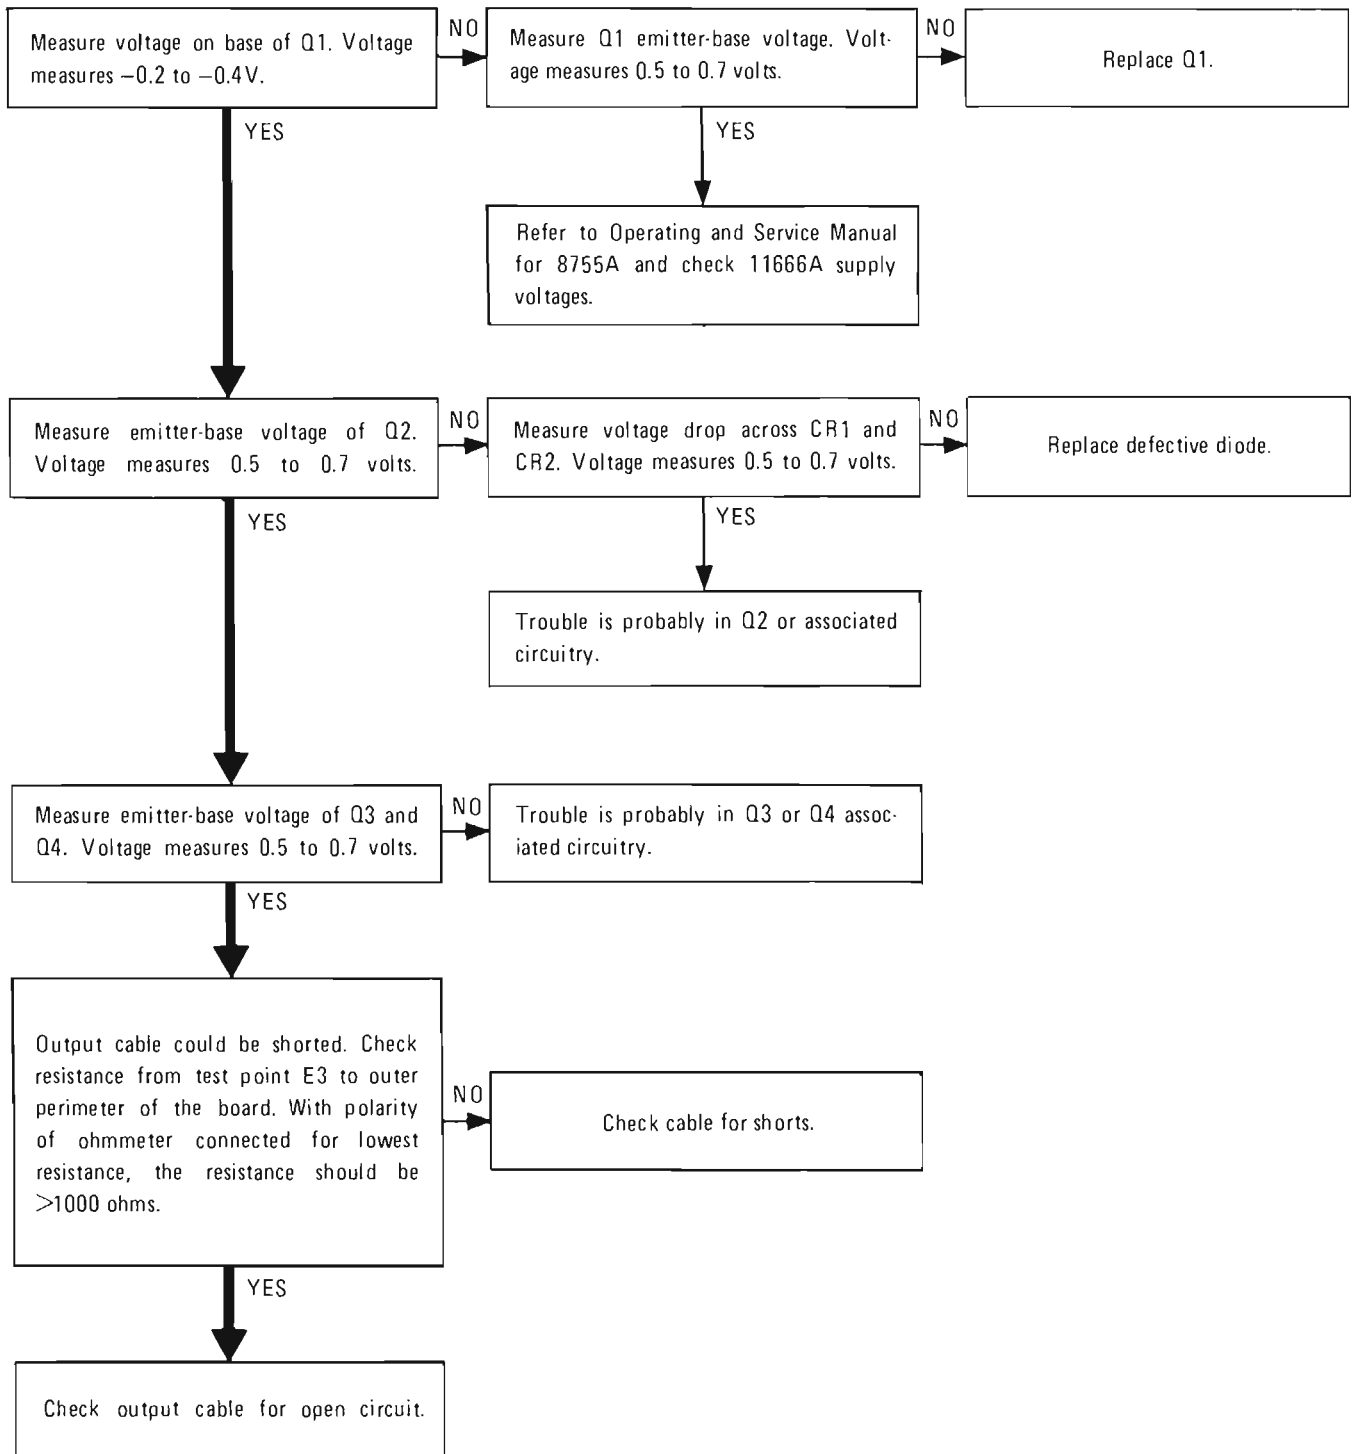

Figure 8-5. Isolating Trouble to an Individual Component in the Amplifier
c. Perform the troubleshooting procedure in Figure 8-5 to isolate the trouble on an amplifier assembly to a particular component.